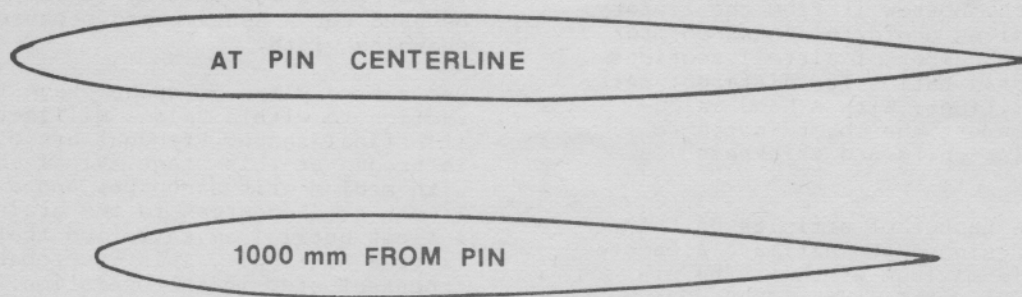

FIG.1 - CENTERBOARD SECTIONS
After reviewing a number of articles on the subject, I have designed the ultimate Albacore centreboard. It is maximum width at the pin (360mm) and minimum width at the 1000mm distance (270). The length will be the maximum permitted (1270). I will reduce this to the minimum (1220) if the board proves slow. The tip will be cut of square (unlike traditional design) with a rounded toe and sharp corners at the bottom and trailing edge. The objective is to keep tip turbulence from creeping up the back edge of the board. The only problem is that this board will not fit into the centreboard trunk in my boat. A bit of surgery will solve this problem. The maximum thickness will be a uniform 28.5mm over the whole length. The airfoil will be a NACA 64-009 section modified to suit a chord of 270mm and thickness of 28.5mm. For wider sections of the board the airfoil section will be "cut" at it's widest point and "stretched" to give a parallel-sided section in the middle (see Fig.1) The idea behind this is to give maximum strength and rigidity (especially torsional rigidity) to the top of the board. Ask me next Fall whether or not it works!